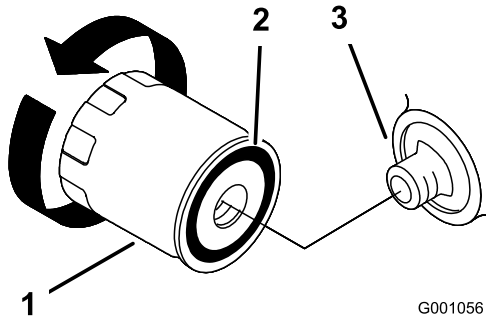

Figure 34
4. Install the replacement oil filter to the filter adapter, turn the oil filter clockwise until the rubber gasket contacts the filter adapter, then tighten the filter an additional 2/3 to 1 turn (Figure 34).